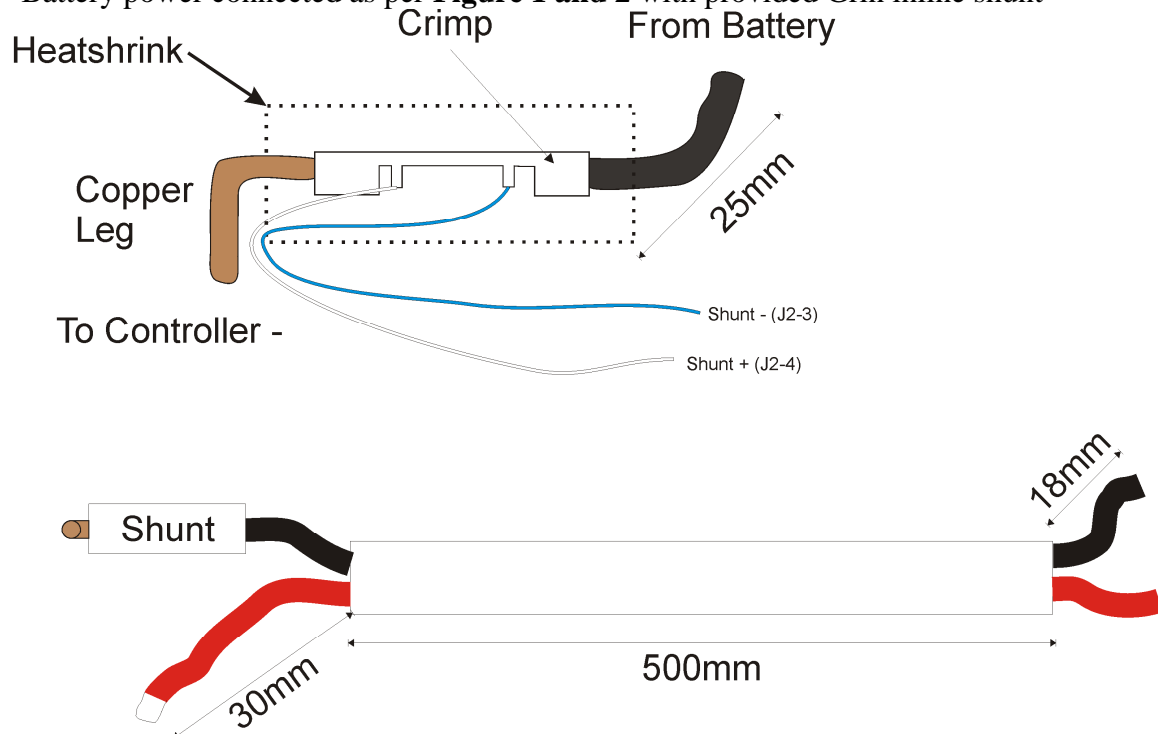

Figure 1: Battery Power and Shunt Diagram
- Battery power connected as per **Figure 1 and 2** with provided Grin inline shunt
- Tin shunt wire tabs, solder shunt wires as per **Figure 1**